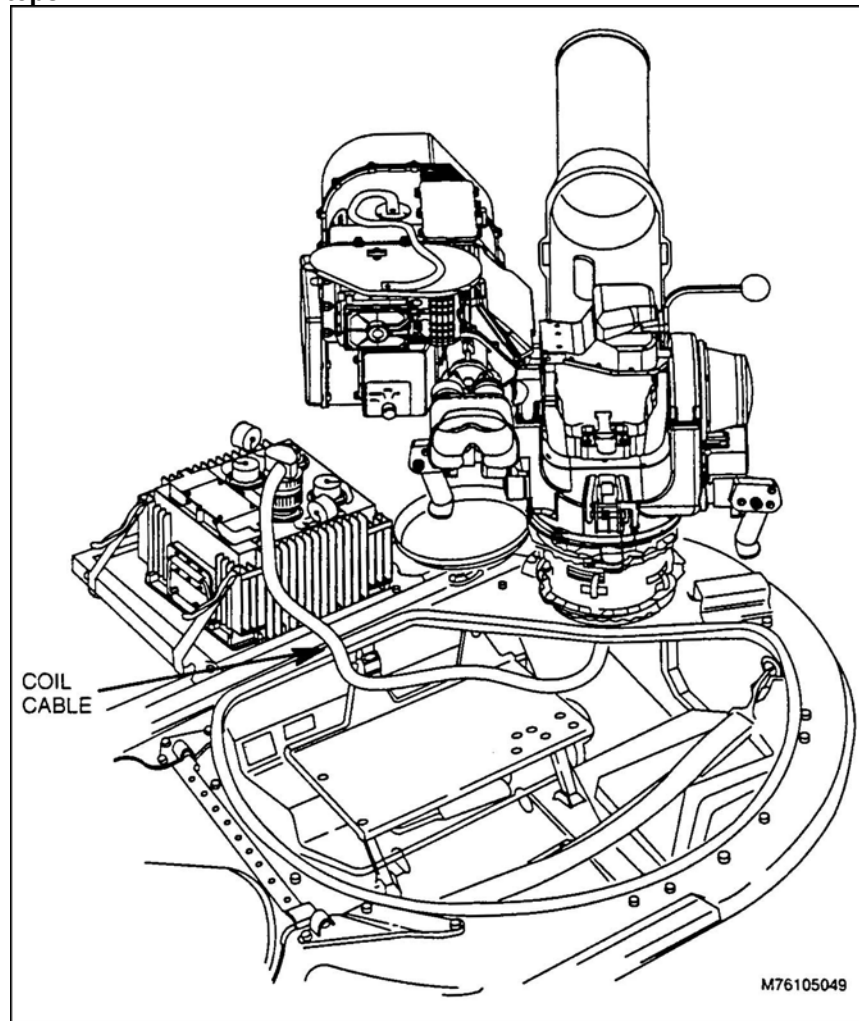

Figure 17. Coil cable.
- a. Connect coil cable with pin saver adapter to FCS (Figure 17).